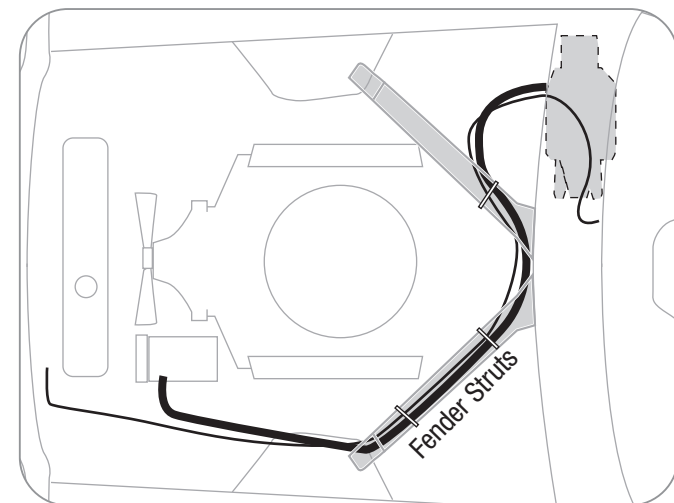

FIGURE 35
**STEP NINE:** Connect the pressure switch by first connecting one wire to the connection on the compressor, and the other wire will be routed along with the liquid hose along the underside of the fender supports and connected to the blue lead you put thru the firewall during the interior installation (for attachment route, see figure 35). We've included a bullet and slice connector to make these connections, use a crimp tool to secure these properly.